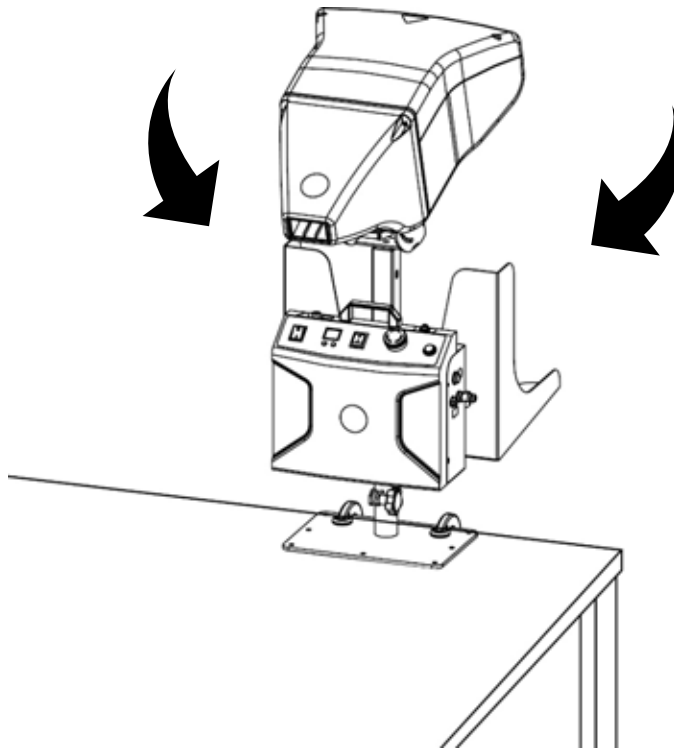

Figure 16 Table-Top Output Chute Position
2. Rotate the Table-Top **Dispenser** Output Chute to the preferred Output Chute position (refer to Figure 16).